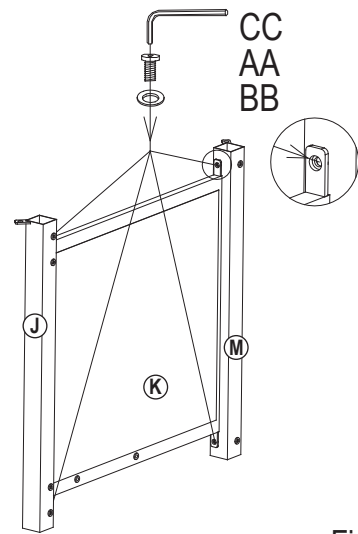

Figure 2
2. Attach left panel (K) to front-left leg (J) and back-left leg (M) with bolts (AA) and washers (BB) using hex screwdriver (CC), (see Figure 2).